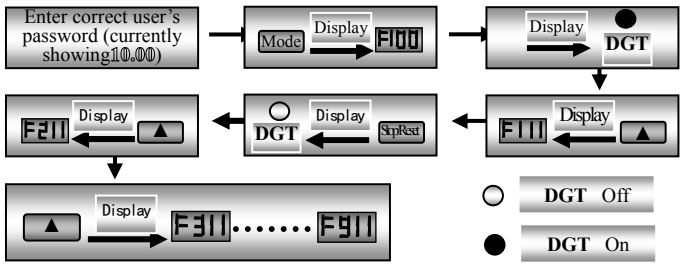

Fig 2-2 Switch over in a Code Group or between Different Code-Groups
e.g. when function code shows F111, DGT indicator will be on. Press “▲”/ “▼” key, function code will keep increasing or decreasing by degrees within F100~F160; press “stop/reset” key again, DGT indicator will be off. When pressing “▲”/ “▼” key, function codes will change circularly among the 9 code-groups, like F211, F311...F911, F111..., Refer to Fig 2-2 (The sparkling “10.00” is indicated the corresponding target frequency values).